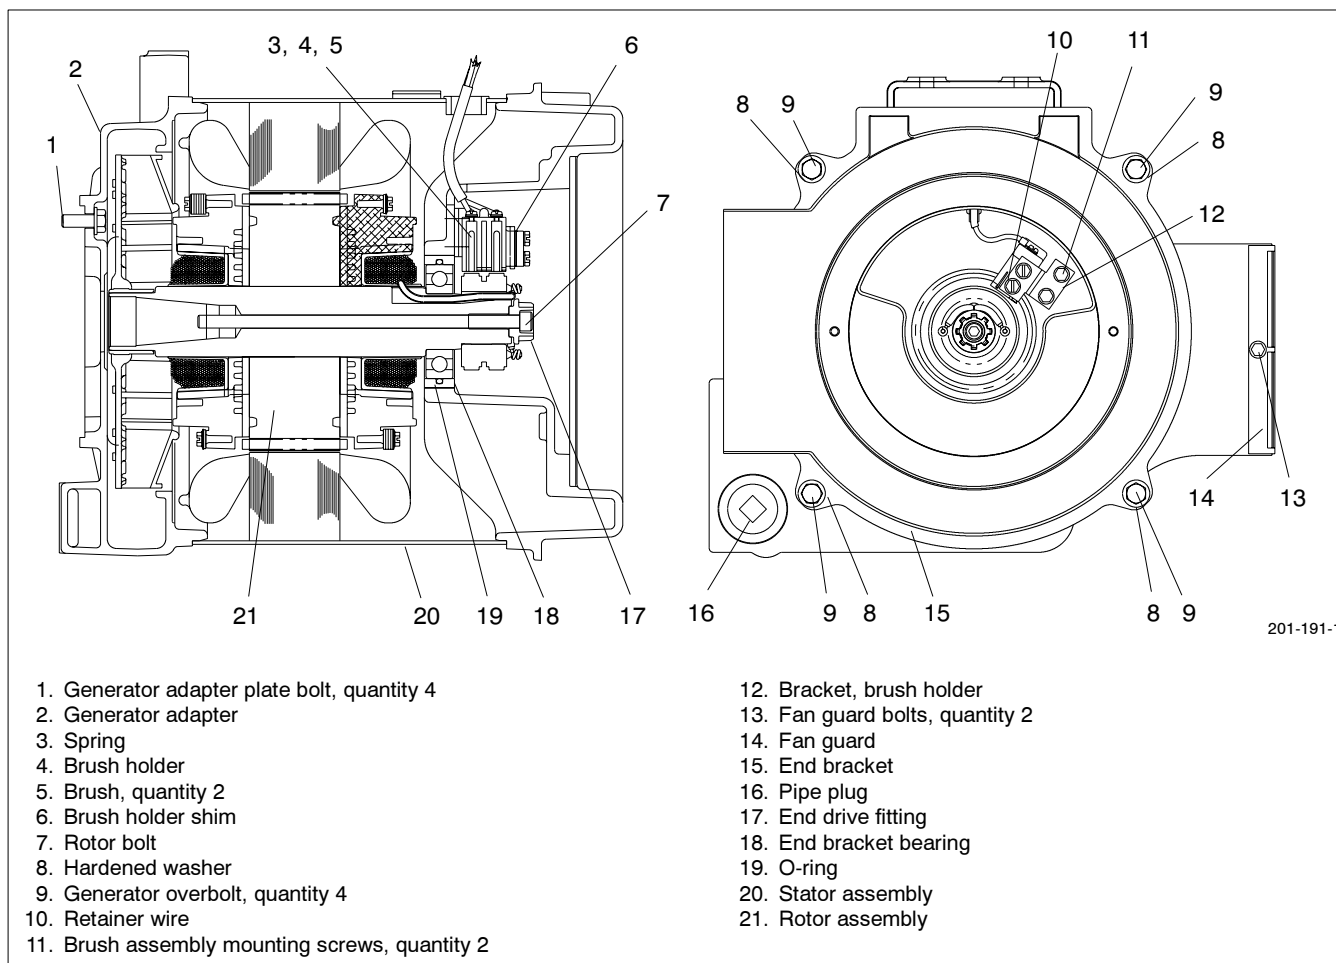

Figure 9-3 Alternator Assembly Components
15. Remove the brush holder and carefully pull the leads out of the stator housing. See Figure 9-3.
18. Remove the end bracket overbolts. See Figure 9-3. Use a rubber mallet to separate the end bracket from the stator housing.